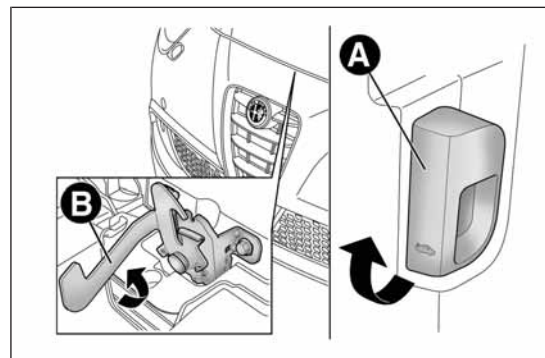

fig. 68
- ❑ pull lever A fig. 68 in the direction indicated by the arrow;